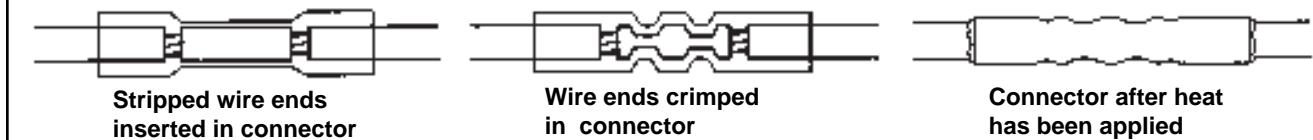

Figure 2. Install Sealed Butt Connectors
8. Trim back the vinyl conduit 1 inch from the end of the turn signal wire that leads to the front of the fender (the wire that was cut in step 2). Strip a 3/8 in. section of insulation from each loose wire end. Strip a 3/8 in. section of insulation from both ends of one of the 12 in. long kit wires (10).
9. See Figure 2. Insert one end of the kit wire (10), and the end of the turn signal wire leading from the front of the fender, into opposite ends of a butt splice connector (7).
11. See Figure 2. Using the UltraTorch UT-100 (H-D 39969), Robinair Heat Gun (H-D 25070) with Heatshrink Attachment (H-D 41183), or other suitable radiant heating device, heat the crimped splice to encapsulate the butt splice connection. Apply heat from the center of the crimp out to each end until the meltable sealant exudes out of both ends of the connector.
12. Slip one of the 17 in. long pieces of kit conduit (9) over the wire that was spliced in the preceding step. Push the conduit far enough forward so that the stripped end of the spliced wire is showing.
14. With the kit wire spliced in place, pull the conduit (9) towards the turn signal lamp until the conduit covers all exposed wire.